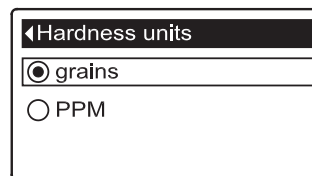

FIG. 112
1. From any of the rolling status screens, press the SELECT (O) button to display the **Main menu**.
3. Press the SELECT (O) button to display the User preferences menu.
5. Press the SELECT (O) button to display the Hardness units menu (See Figure 112).
6. If the desired hardness unit already has a black dot next to it (See Figure 112), go to Step 7. Otherwise, press the DOWN (▼) or UP (▲) buttons to scroll to the other hardness unit, then press SELECT (O) to choose it.
7. Press the SELECT (O) button. The display will go back to the User preferences menu.